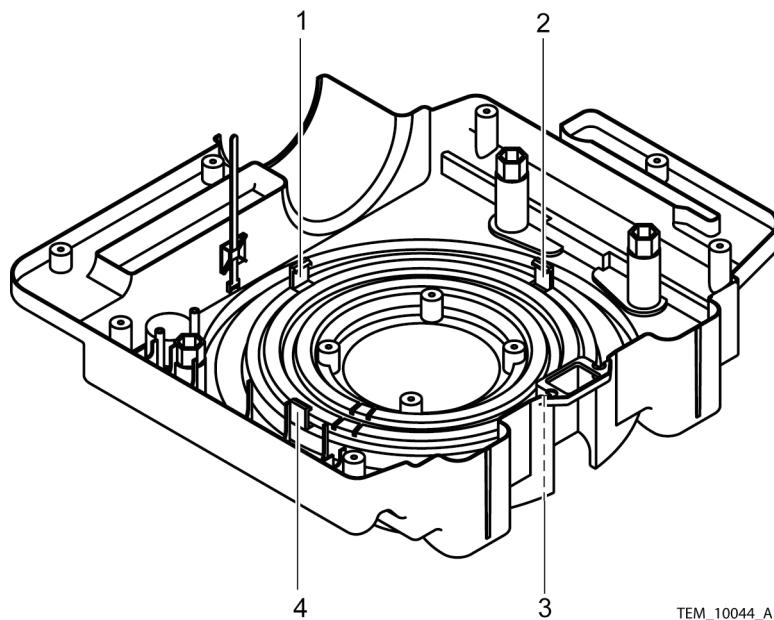

Figure 49. Blower Assembly Clips
21. Place the blower assembly into the rear cover assembly and ensure that the blower assembly clips (shown in Figure 49) attach over the edges of the blower assembly.